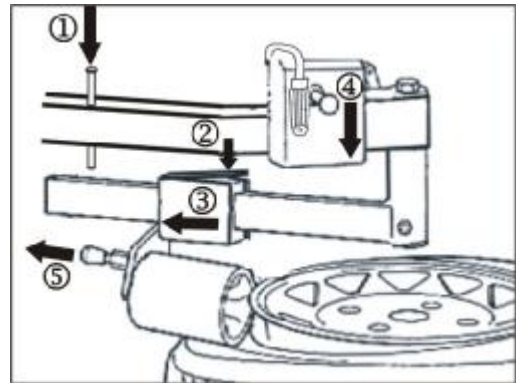

Fig.30
- I Draw out the swivel arm and position it as in figure 30, press down the spacer pin (①,fig.30) to lock the fore swivel arm under back swivel arm. Following
②,③, press down locking clip and move the roller to the position 2-3cm away from rim. Lower down control lever to depress down tyre 3-5cm as ④, finally, pull out the knob as ⑤.